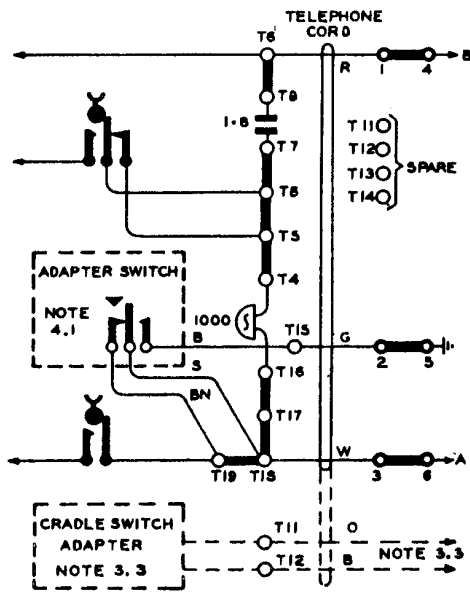

FIG 4
3.1.2 When P.A.B.X. recall facilities are required, connect the telephone as shown in Fig. 4, omit the terminal block and the strap T17-T18.
3.3 Holding key alarm with P.A.B.X. recall telephone (Fig. 4).
3.3.2 Fit adapter switch as in Fig. 4 and Note 4.1.
3.3.3 Replace the 3-wire cord HC 543.... with a 5-wire cord KC 739...., wire as shown in Fig. 4 including connections shown - - -, omitting the terminal block.
4.1 Fit adapter switch HC 110 (non-locking), with label HC 112.... (colour) to mounting bracket in telephone, remove dummy button from case. Connect leads as shown in Fig. 4.